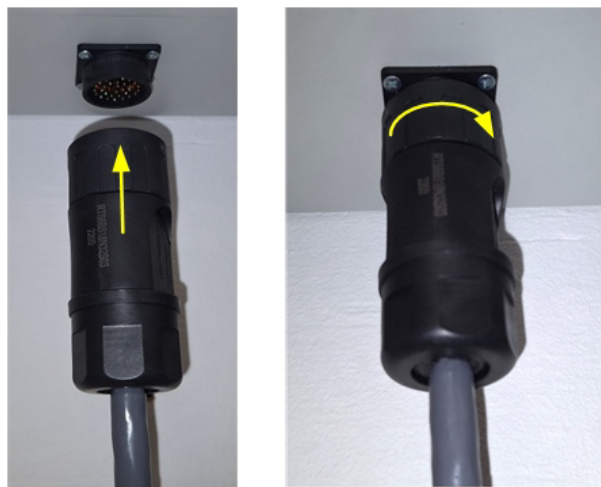

Figure 31. Communications Cable Connection to 3rd Party System.
8. Insert the Communications Cable plug into the circular connector receptacle. Tighten it securely (approximately 1/4 turn until it stops) to establish a weatherproof connection. See Figure 31.